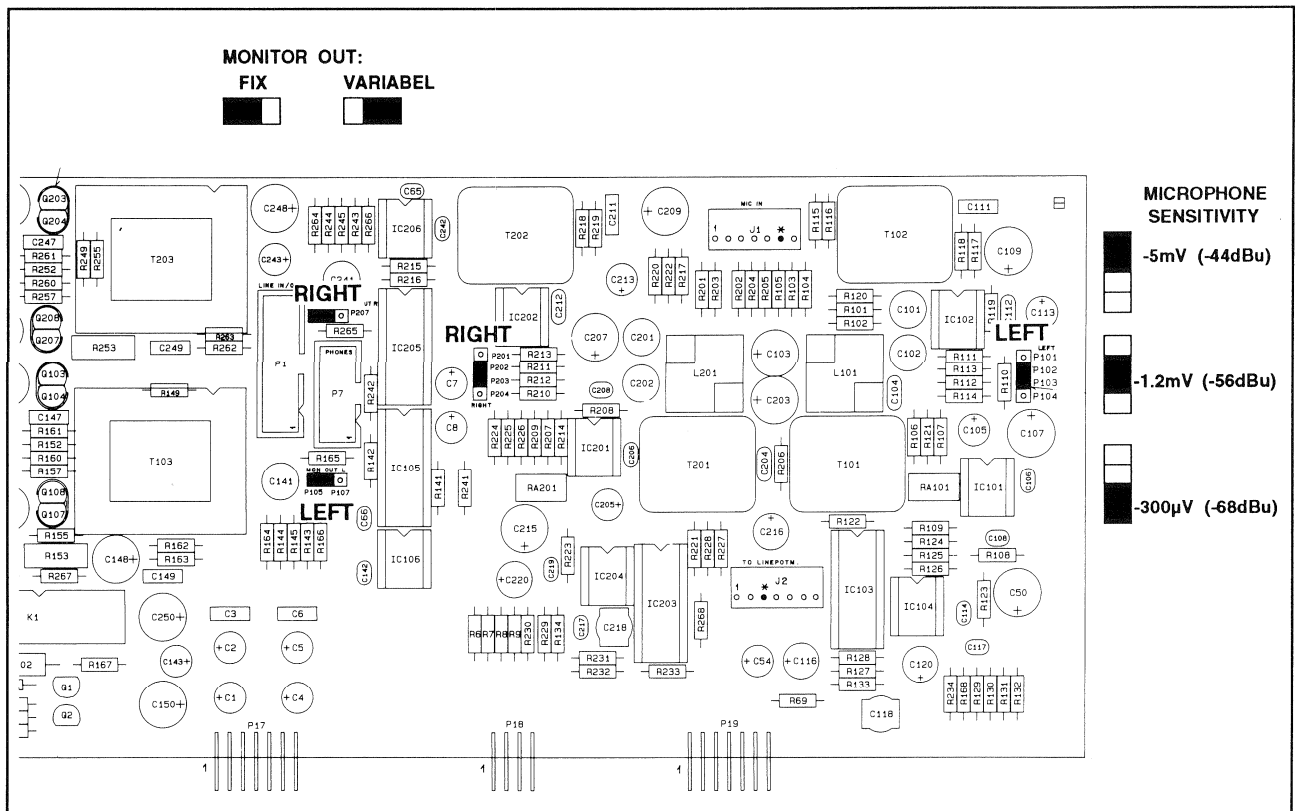

Fig.1.4 Jumper setting of the Analog Board 1.865.130 or 1.865.125
For optimum adaptation to the connected microphone, this input can be adjusted to three different sensitivities. On the analog board 1.865.125 or 1.865.130 the following jumper settings are possible (also refer to Fig. 1.4):
**Monitor output:** On the analog board the monitor output can be changed with a jumper from fixed to adjustable level (headphones potentiometer), see Fig. 1.4.